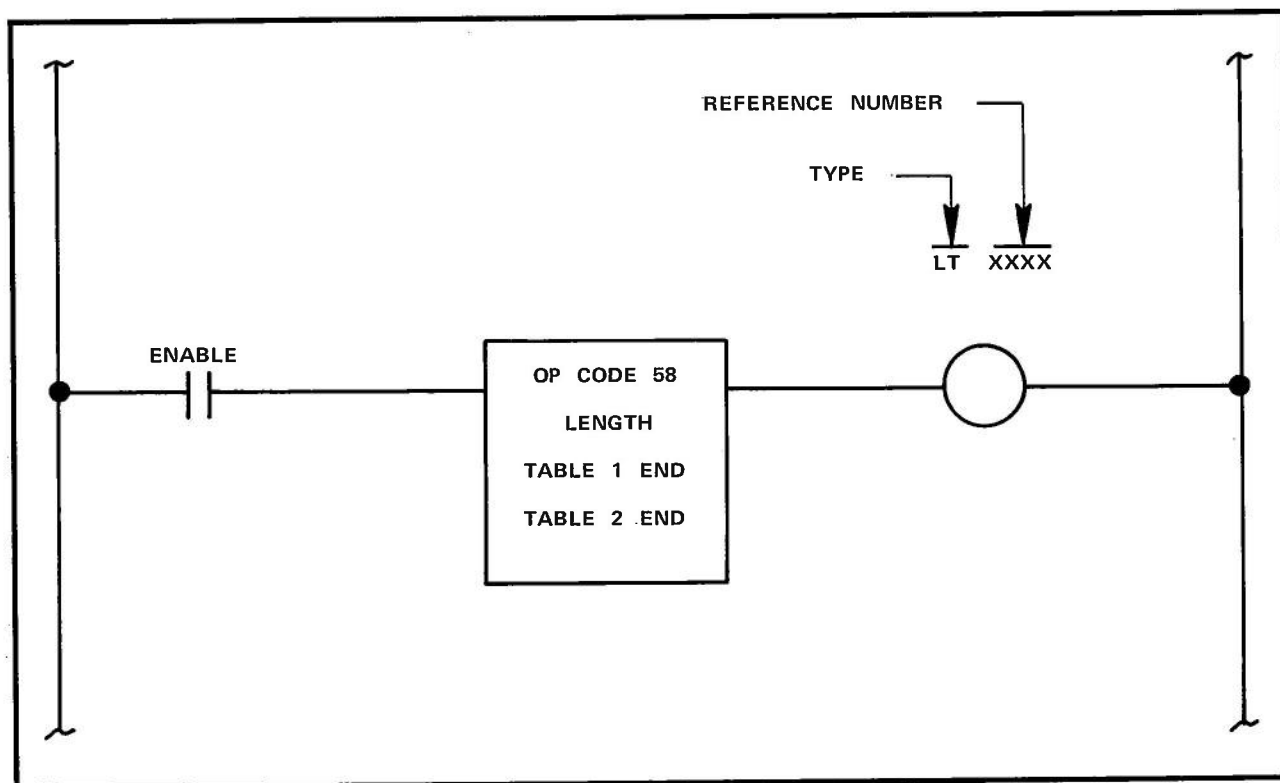

Figure 1. Ascending Sort (AS)
The Ascending Sort (AS) function arranges the data from a table of registers into ascending order (smallest-to-largest). This function can take more than one scan for completion. AS function symbology is shown in Figure 1.